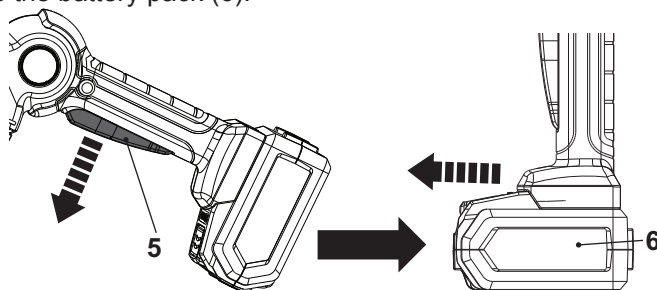

Fig. 12
1. Release the on/off switch (5) (Fig. 12).
2. Remove the battery pack (6).